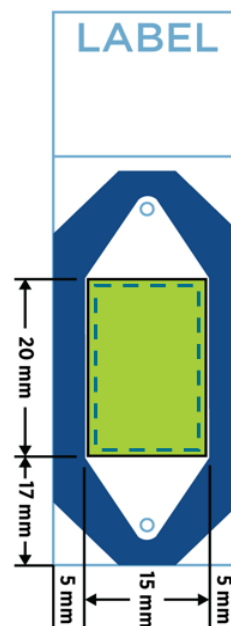

Figure 53: Tissue scan area (not to scale)
- Sections should be mounted in the center of the slide scan area (Figure 53) while allowing adequate room for flow cell coverslip adhesives at the edges of the scan area.
1. Unstained tissue sections should be sectioned at **5 μm thickness** and mounted on the label side of Leica BOND Plus slides or VWR Superfrost Plus Micro Slides (Figure 53) (figure not to scale; see the template on the Flow Cell Assembly Tool for a to-scale template).
- Sections should be centered within the scan area as shown above (Figure 53).